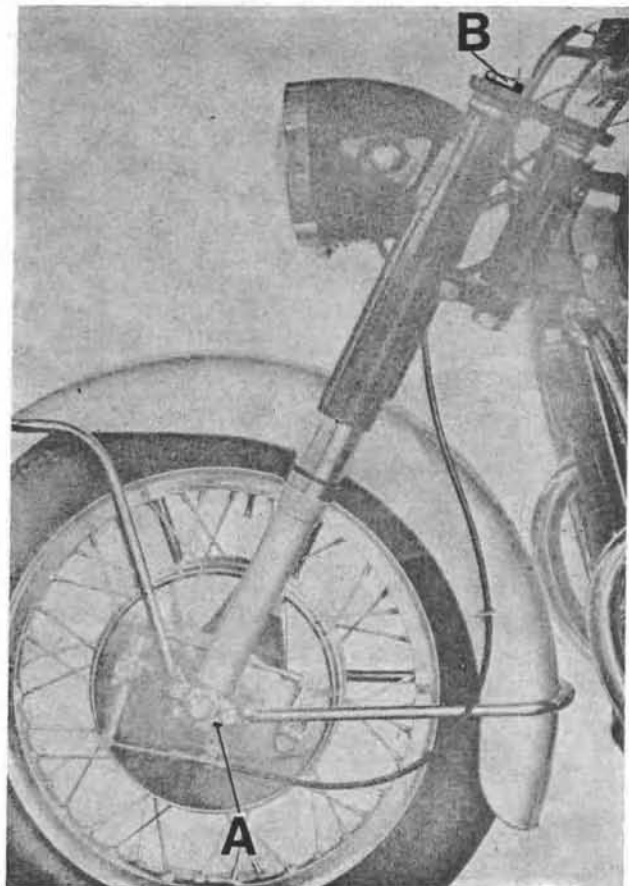

Fig. 102
- drain oil from dampers (after stripping down fork, oil can be drained by removing drain plugs (see A on Fig. 102) from both fork covers).
- thru filling plug (see B on Fig. 102) pour into each fork tube 0.160 liters (5.4 oz.) of « SHELL Tellux 33 » oil.